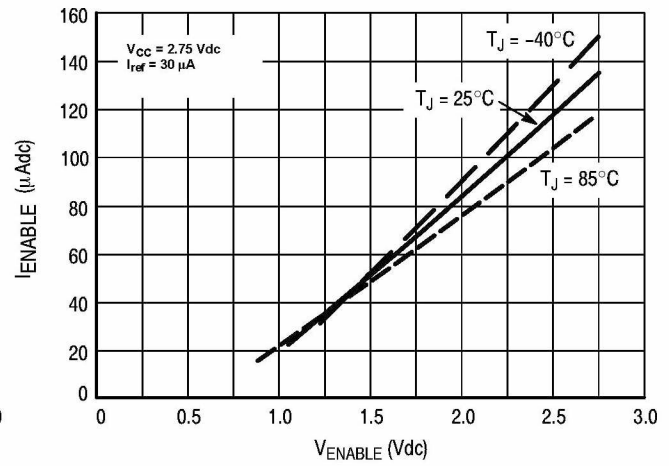

Figure 5. I_{enable} versus V_{enable}
- Step 2: Insure that Min V_{ENBL} is $\geq$ minimum indicated in Figures 5 and 6.